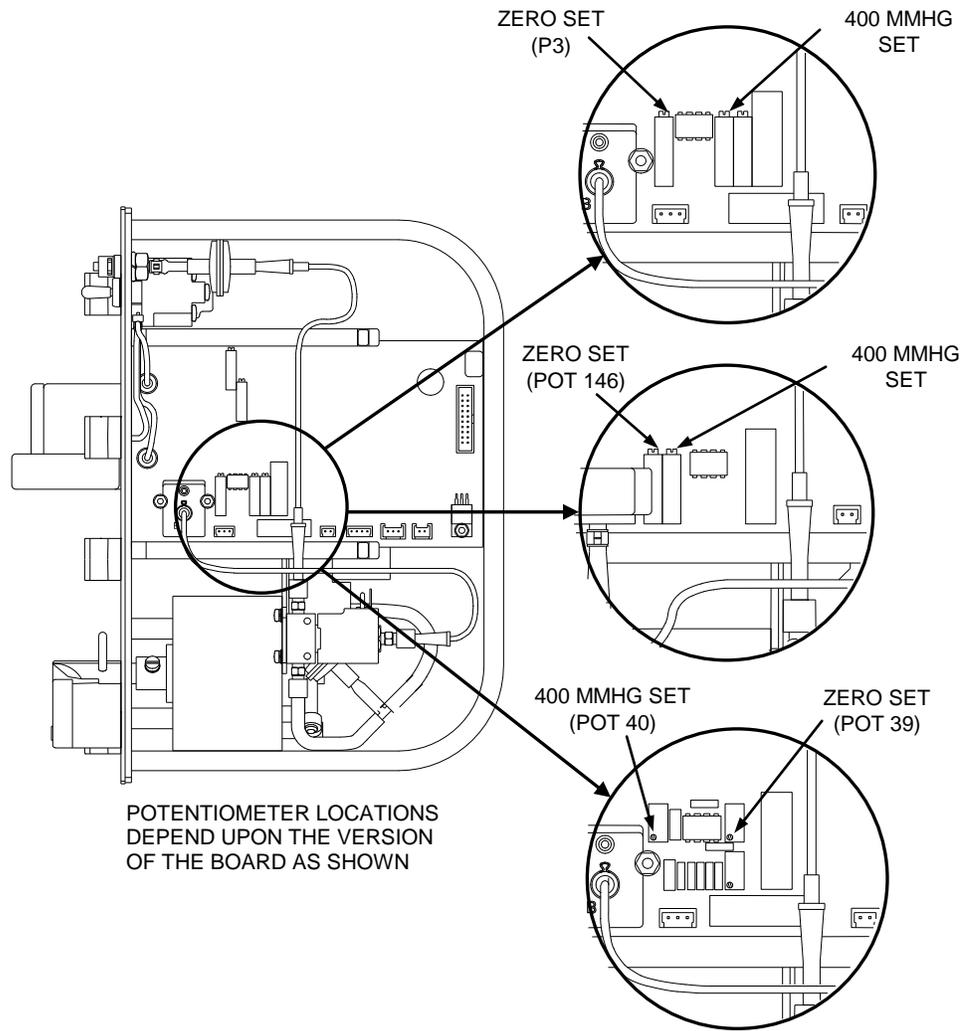

Figure 6 - Venous Pressure Display Adjustments
2. Adjust the ZERO SET potentiometer (see Figure 6) so that the Venous Pressure data box indicates zero mmHg.
- Adjust the 400 MMHG SET potentiometer (see Figure 6) so the Venous Pressure data box indicates 400 mmHg.